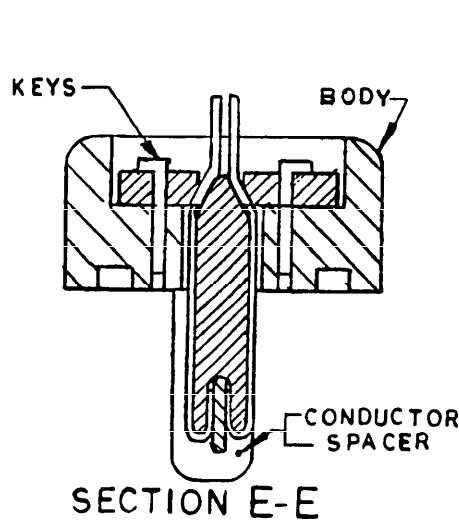

FIGURE 6. Key installation.
- G. Bend protruding tabs of keys towards outer side of body to secure proper junction of conductor spacer and body. See Figure 6 (Key Installation).